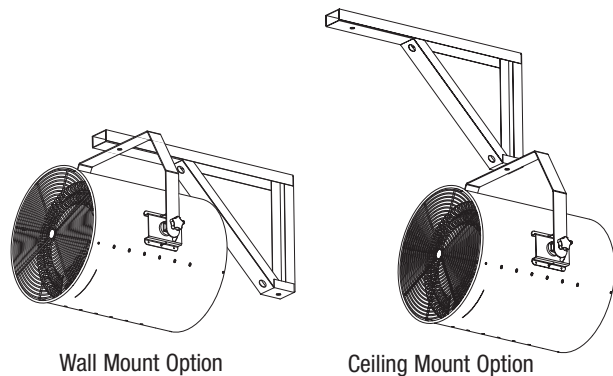

Figure 3 – DHCWM Mounting Bracket
5. Attach heater to bracket using the desired configuration shown in Figure 3.